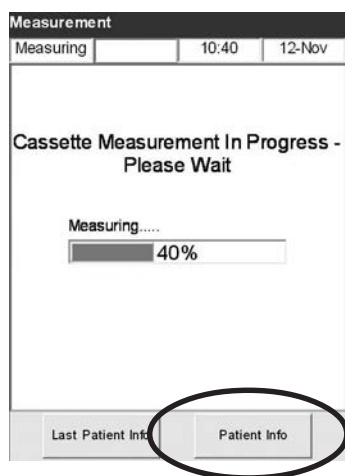

Fig. 5-6 Sample Measurement
Next the sample is measured. During the measurement the status light is blinking and a progress bar is displayed (Fig. 5-6).
5. To enter patient information while measurement is in progress, press **<Patient Info>** (Fig. 5-6).